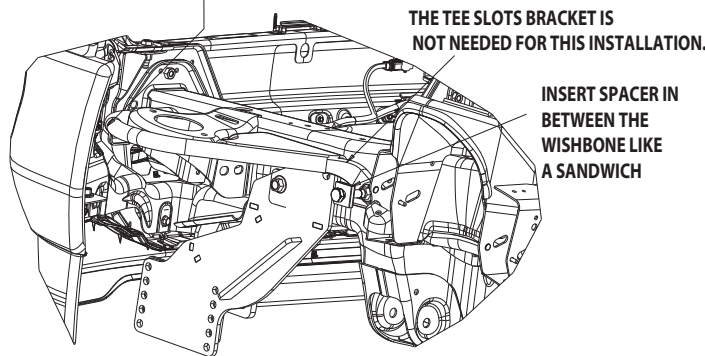

Fig. 1
2. Remove the plastic mud-guard at the bottom of the frame by removing the screws on the perimeter. Re-locate a small screw on the driver side that holds the thin plastic plate near the fuse box. **For 2015 & newer vehicles, a wish bone bracket must be relocated with a spacer sandwiching in between. See Fig. 1.**